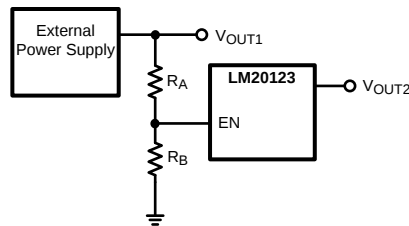

Figure 29. Sequencing LM20123 with Precision Enable
The LM20123 has a built-in under-voltage lockout protection circuit that keeps the device from switching until the input voltage reaches 2.7V (typical). The UVLO threshold has 45 mV of hysteresis that keeps the device from responding to power-on glitches during start up. If desired, the turn-on point of the supply can be changed by using the precision enable pin and a resistor divider network connected to V_{IN} as shown in Figure 29 in the design guide.
The precision enable (EN) and power good (PGOOD) pins of the LM20123 can be used to address many sequencing requirements. The turn-on of the LM20123 can be controlled with the precision enable pin by using two external resistors as shown in Figure 29.